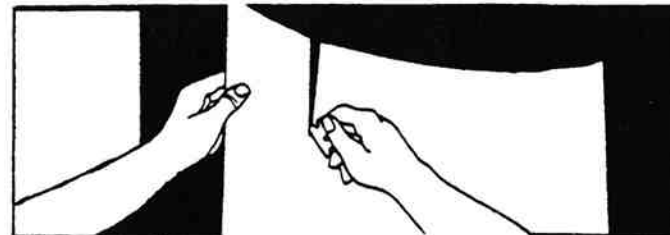

Figure 3-8. Cutting Liner or Backing.
1. Apply masking tape around the outside area of the precise area to be covered by the patch. Using medium grit (120) sandpaper on a sanding block, thoroughly abrade the entire area that is to be covered. Wipe all residue off the surface with a tack-rag or with a clean cloth dampened with isopropyl alcohol. Spray or brush a thin, uniform DI-NOC brand primer 8004 on the surface and allow to dry for approximately 15 minutes. Remove all masking tape before the primer dries.
4. Cut the liner or backing into two pieces (about 1/3 and 2/3 of its original size). Do not cut the vinyl. See figure 3-8. Place patch face down on a flat surface. Peel back and cut off approximately 1/3 from one edge.